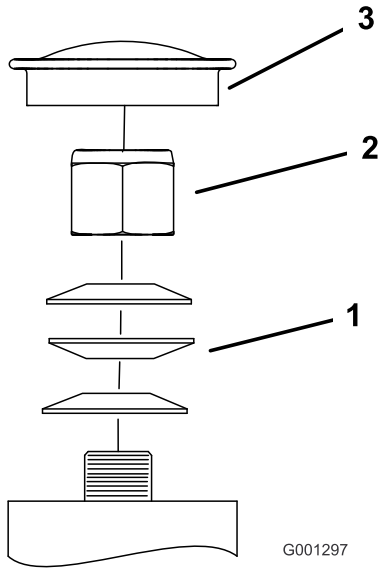

Figure 69
3. Remove the dust cap from caster and tighten the locknut (Figure 69).
4. Tighten the locknut until the spring washers are flat, and then back off a 1/4 turn to properly set the preload on the bearings (Figure 69).
Important: Make sure that the spring washers are installed correctly as shown in Figure 69.
5. Install the dust cap (Figure 69).